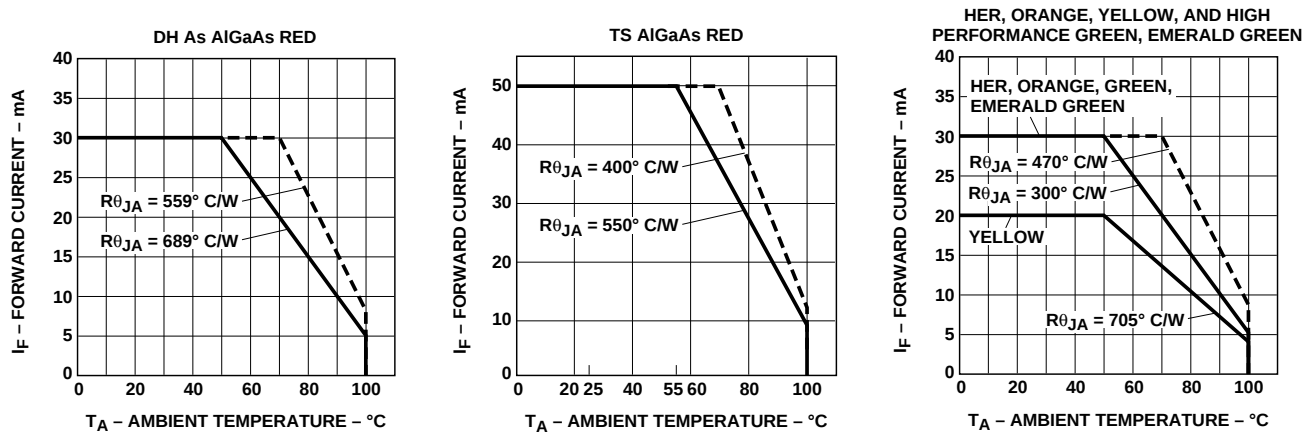

Figure 5. Maximum Forward dc Current vs. Ambient Temperature. Derating Based on $T_{jMAX} = 110^{\circ}\text{C}$
1. See Figure 5 for maximum current derating vs. ambient temperature.